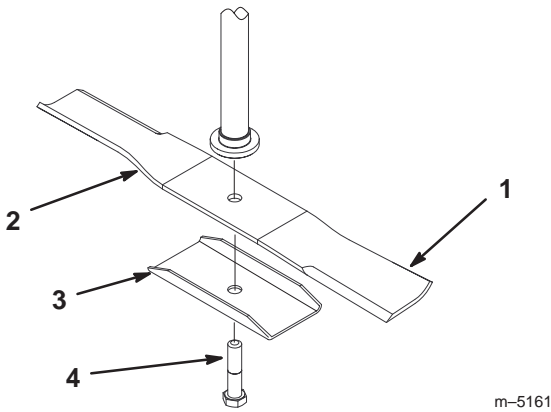
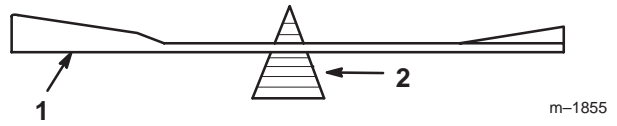

Figure 18
Figure 20
Hold the blade end using a rag or thickly-padded glove. Remove the blade bolt, stiffener, and blade from the spindle shaft (Fig. 18).
2. Check the balance of the blade by putting it on a blade balancer (Fig. 20). If the blade stays in a horizontal position, the blade is balanced and can be used. If the blade is not balanced, file some metal off the end of the sail area only (Fig. 18). Repeat this procedure until the blade is balanced.
1. Install the blade onto the spindle shaft (Fig. 18).
2. Install the stiffener and blade bolt (Fig. 18). Torque the blade bolt to 80–100 ft.-lb. (108–136 N·m).